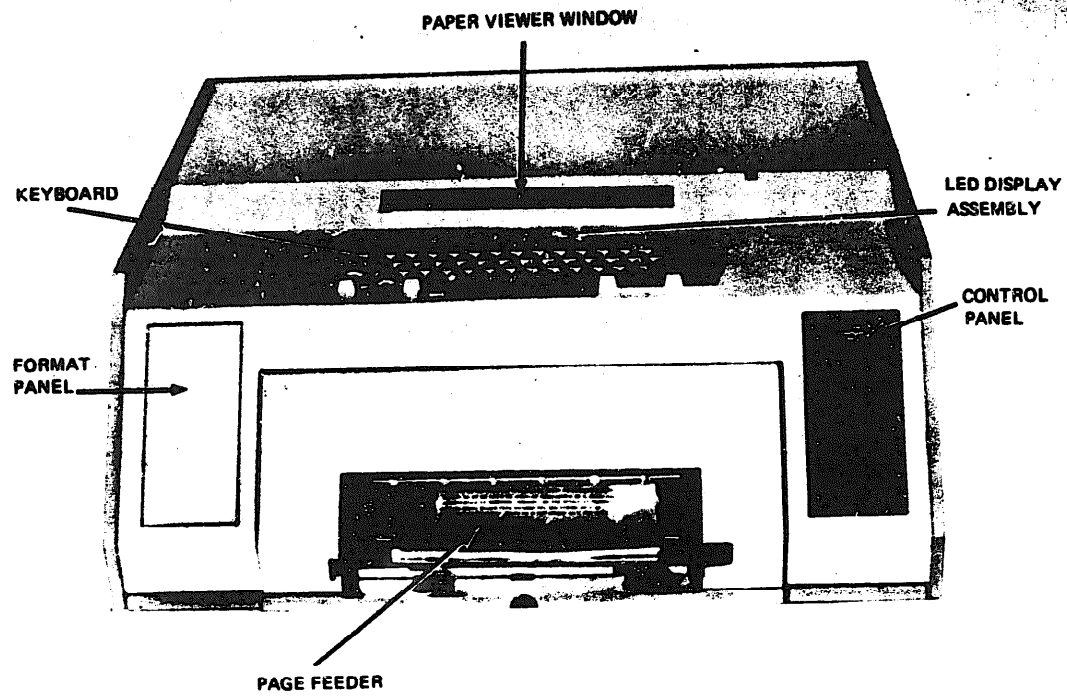
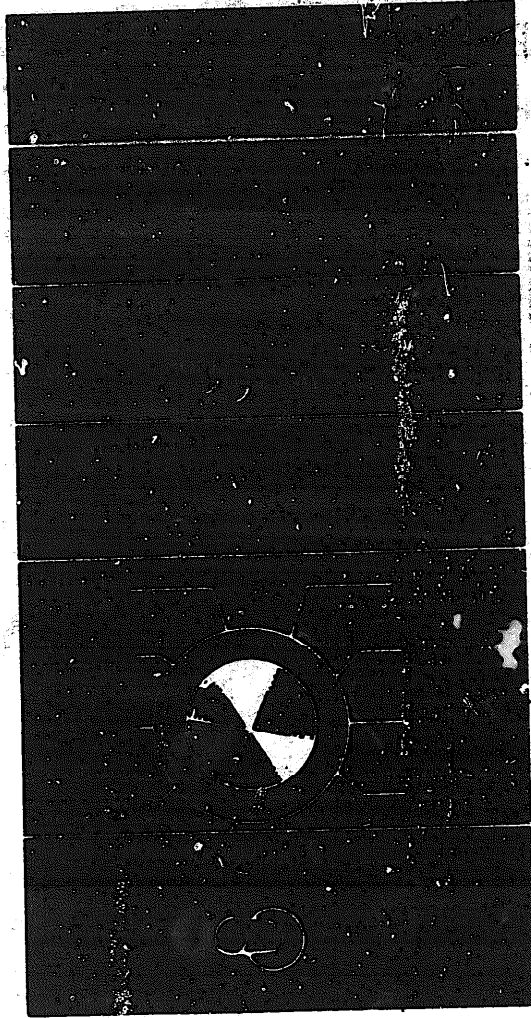

Figure 2-1 Control Console
Figure 2-2. Format Panel
**2-1. IDENTIFICATION OF CONTROLS AND INDICATORS. - ALL operating controls and indicators are located on the Control console of the OCR. The functions of the operating controls and indicators are described in Tables 2-1, 2-2, and 2-3 for the top of the Control Console, the Format Panel and the Control Panel, respectively. Figure 2-1 shows the controls and indicators on top of the Control Console. Figures 2-2 and 2-3 shows the Format and Control Panels. Figure 2-4 shows the Stack Feeder Tray Assembly.**
(See Figure 2-1)
(See Figure 2-2)